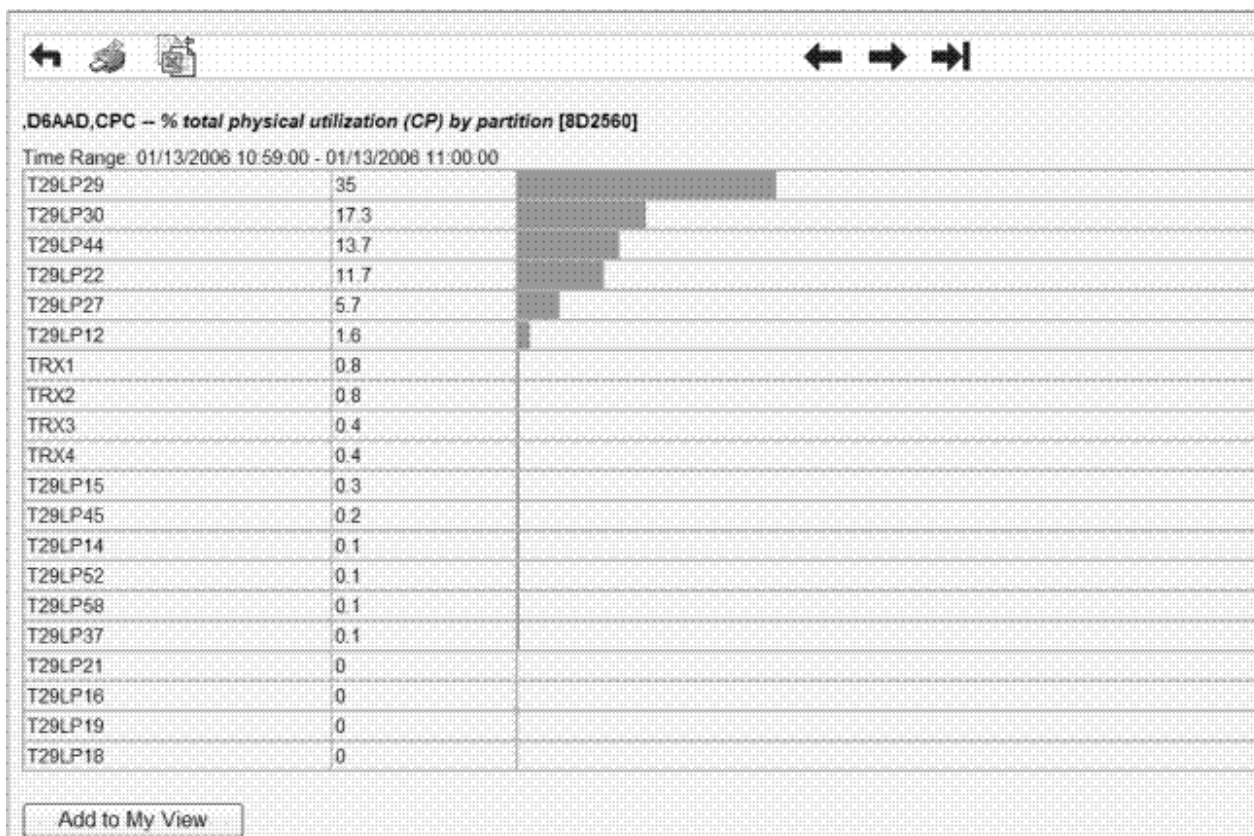

Figure 153. Total utilization of the processors by partitions
If you want to know the total utilization of the physical standard processors by the partitions in the CPC, click on **% total physical utilization (CP) by partition**. Clicking on this metric opens another view presenting the desired results, in our example, a list of partitions, showing the percentage of utilization for each (Figure 153 on page 236).